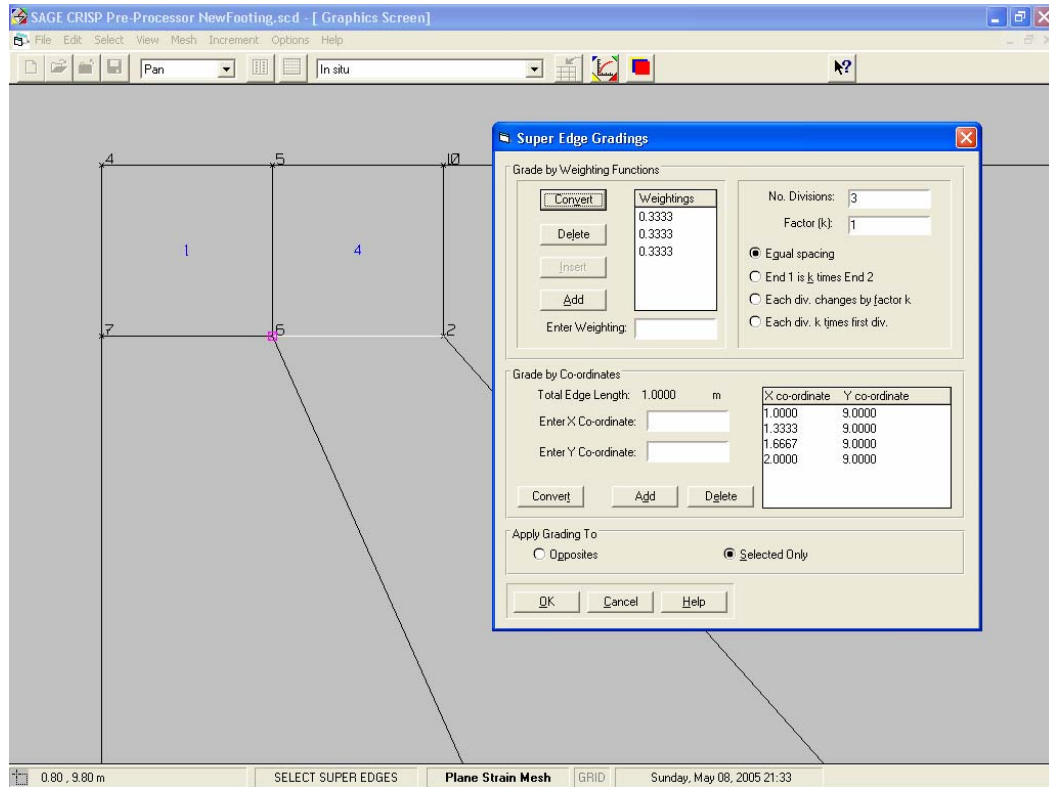

Figure 15 Defining Edge Gradings near the footing corner
- Step 24** Enter '3' into the **Number of Divisions** text box and click on the **Equal Spacing.** option. Weighting values will be automatically entered and the dialogue box should now look like Figure 15.